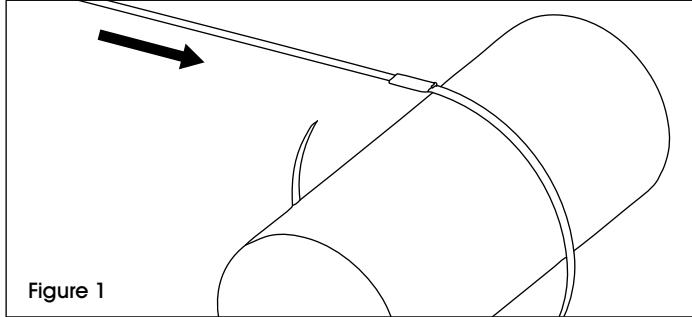

Figure 1
- Pull strapping from cart and bring around load. Push seal on with flat side of the seal facing outside of strap. (See Figure 1)